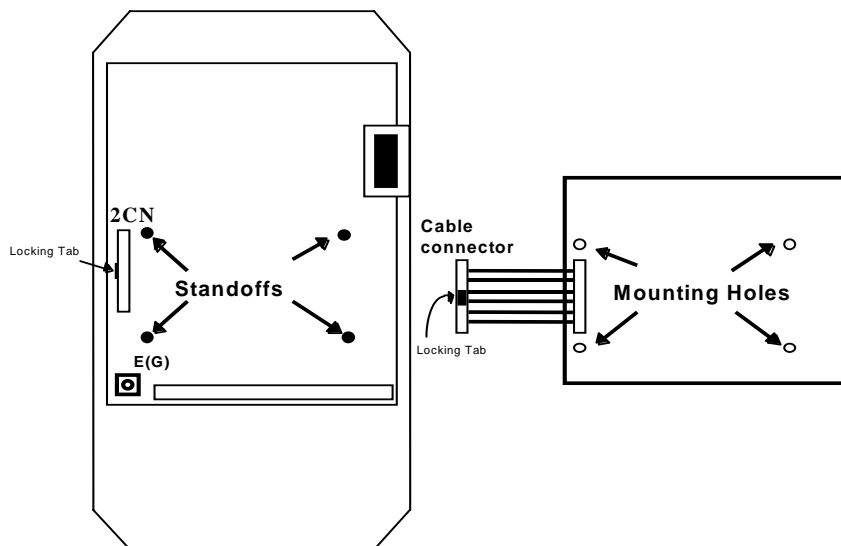

Figure 4. Option Card Positioning
Step 3. Position the option card so that the 12-pin interface cable is to the left, as illustrated in Figure 4. Carefully press the attached cable connector into connector 2CN until it is firmly seated. Please note the orientation of the locking tab relative to the connector mounted on the control board.